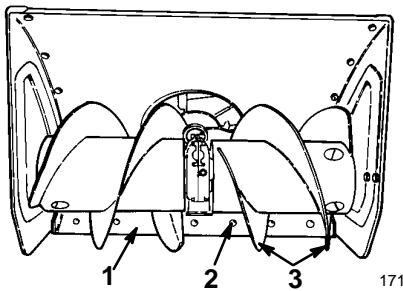

Figure 32
5. Loosen the carriage screws that secure the scraper to the auger housing (Fig. 32).
6. Support the **auger blades** (Fig. 32) so that they are at least 1/8 to 1/4 in. (3 to 6 mm) off the ground.